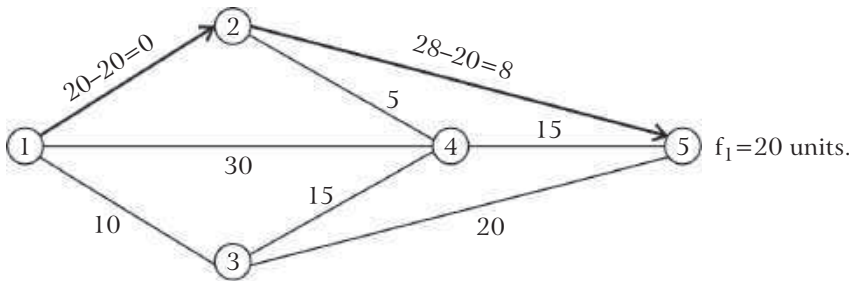

Fig. 8.29
Step 2: Subtracting f_1 (i.e. 20) from the flow capacities of each arc in route 1 – 2 – 5, we get the following network (residue graph) in fig. 8.29.